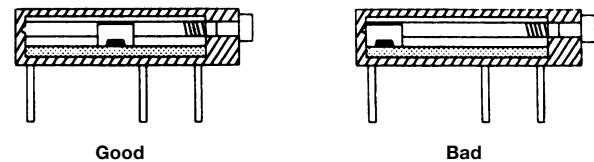

Figure 6
For screw actuated trimmers, make sure the position of the wiper is *not* in contact with either end termination before pre-heating and soldering as illustrated in *Figure 6*.
1. General Soldering Precautions. Before pre-heating and soldering screw actuated trimmers, make sure the position of the wiper is *not* in contact with the end terminals, as illustrated in *Figure 6*, to avoid malfunction of trimmers.